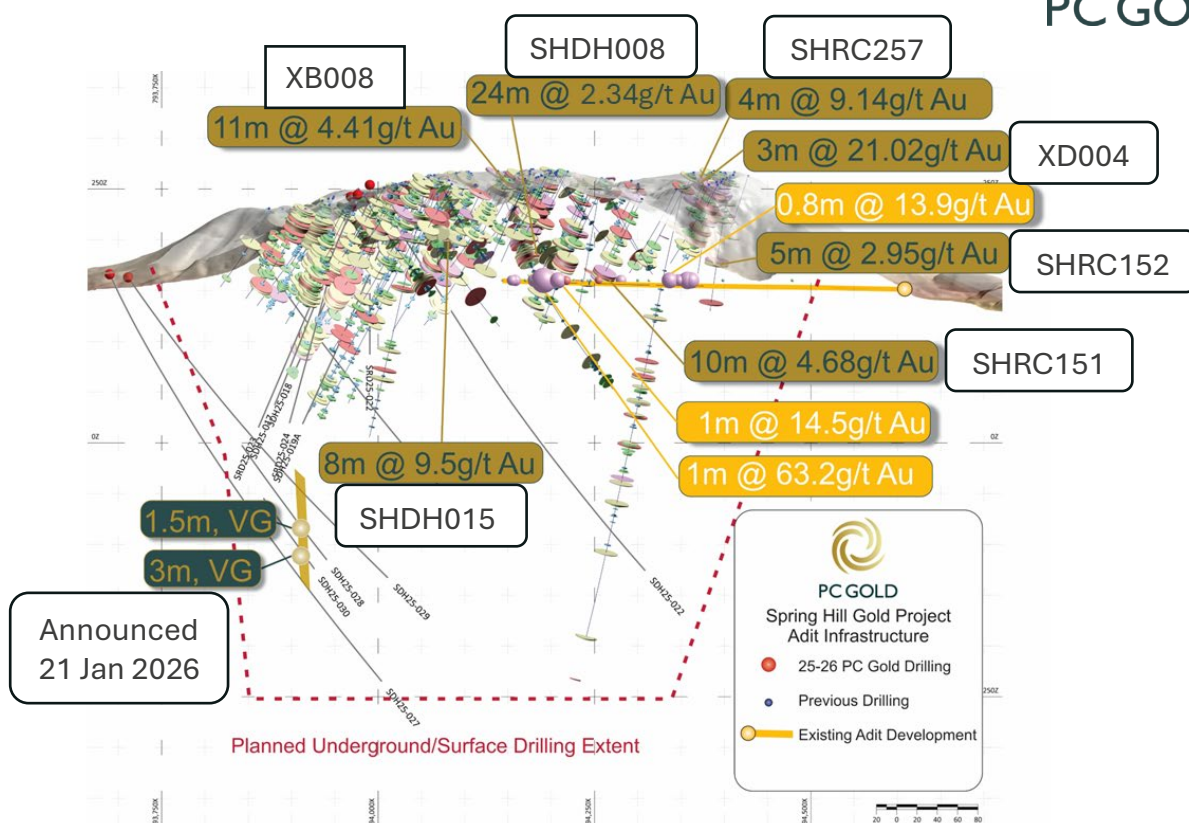

Figure 1 – Location of adit in orange versus historical and current drill holes looking north.
- Significant historical drilling results proximal to the adit as shown in Figure 1, include: